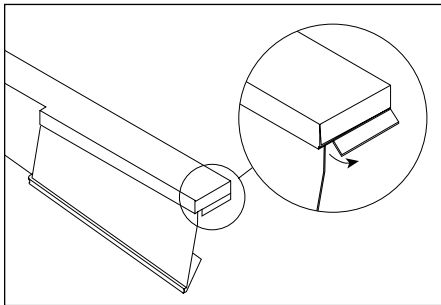

Fig. 8 – Bending the flange for certain tiles
- 9 When installing the dry verge in conjunction with medium format (15” x 9”), thin leading edge large format tiles or slates, or Lincoln interlocking pantiles, the leading flange should be bent out slightly to allow the verge to engage at a lower level and accommodate tiles with a thinner leading edge. The dry verge flange will need to be bent out as shown in Fig. 8.